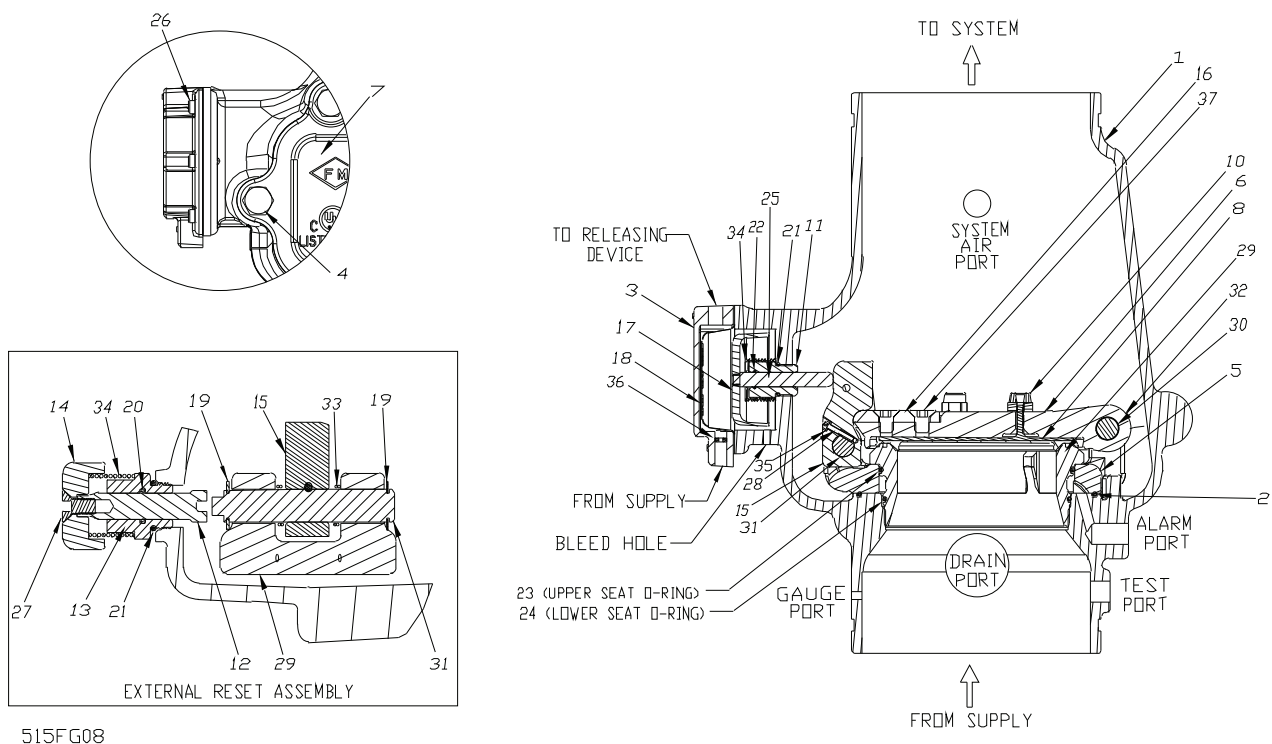
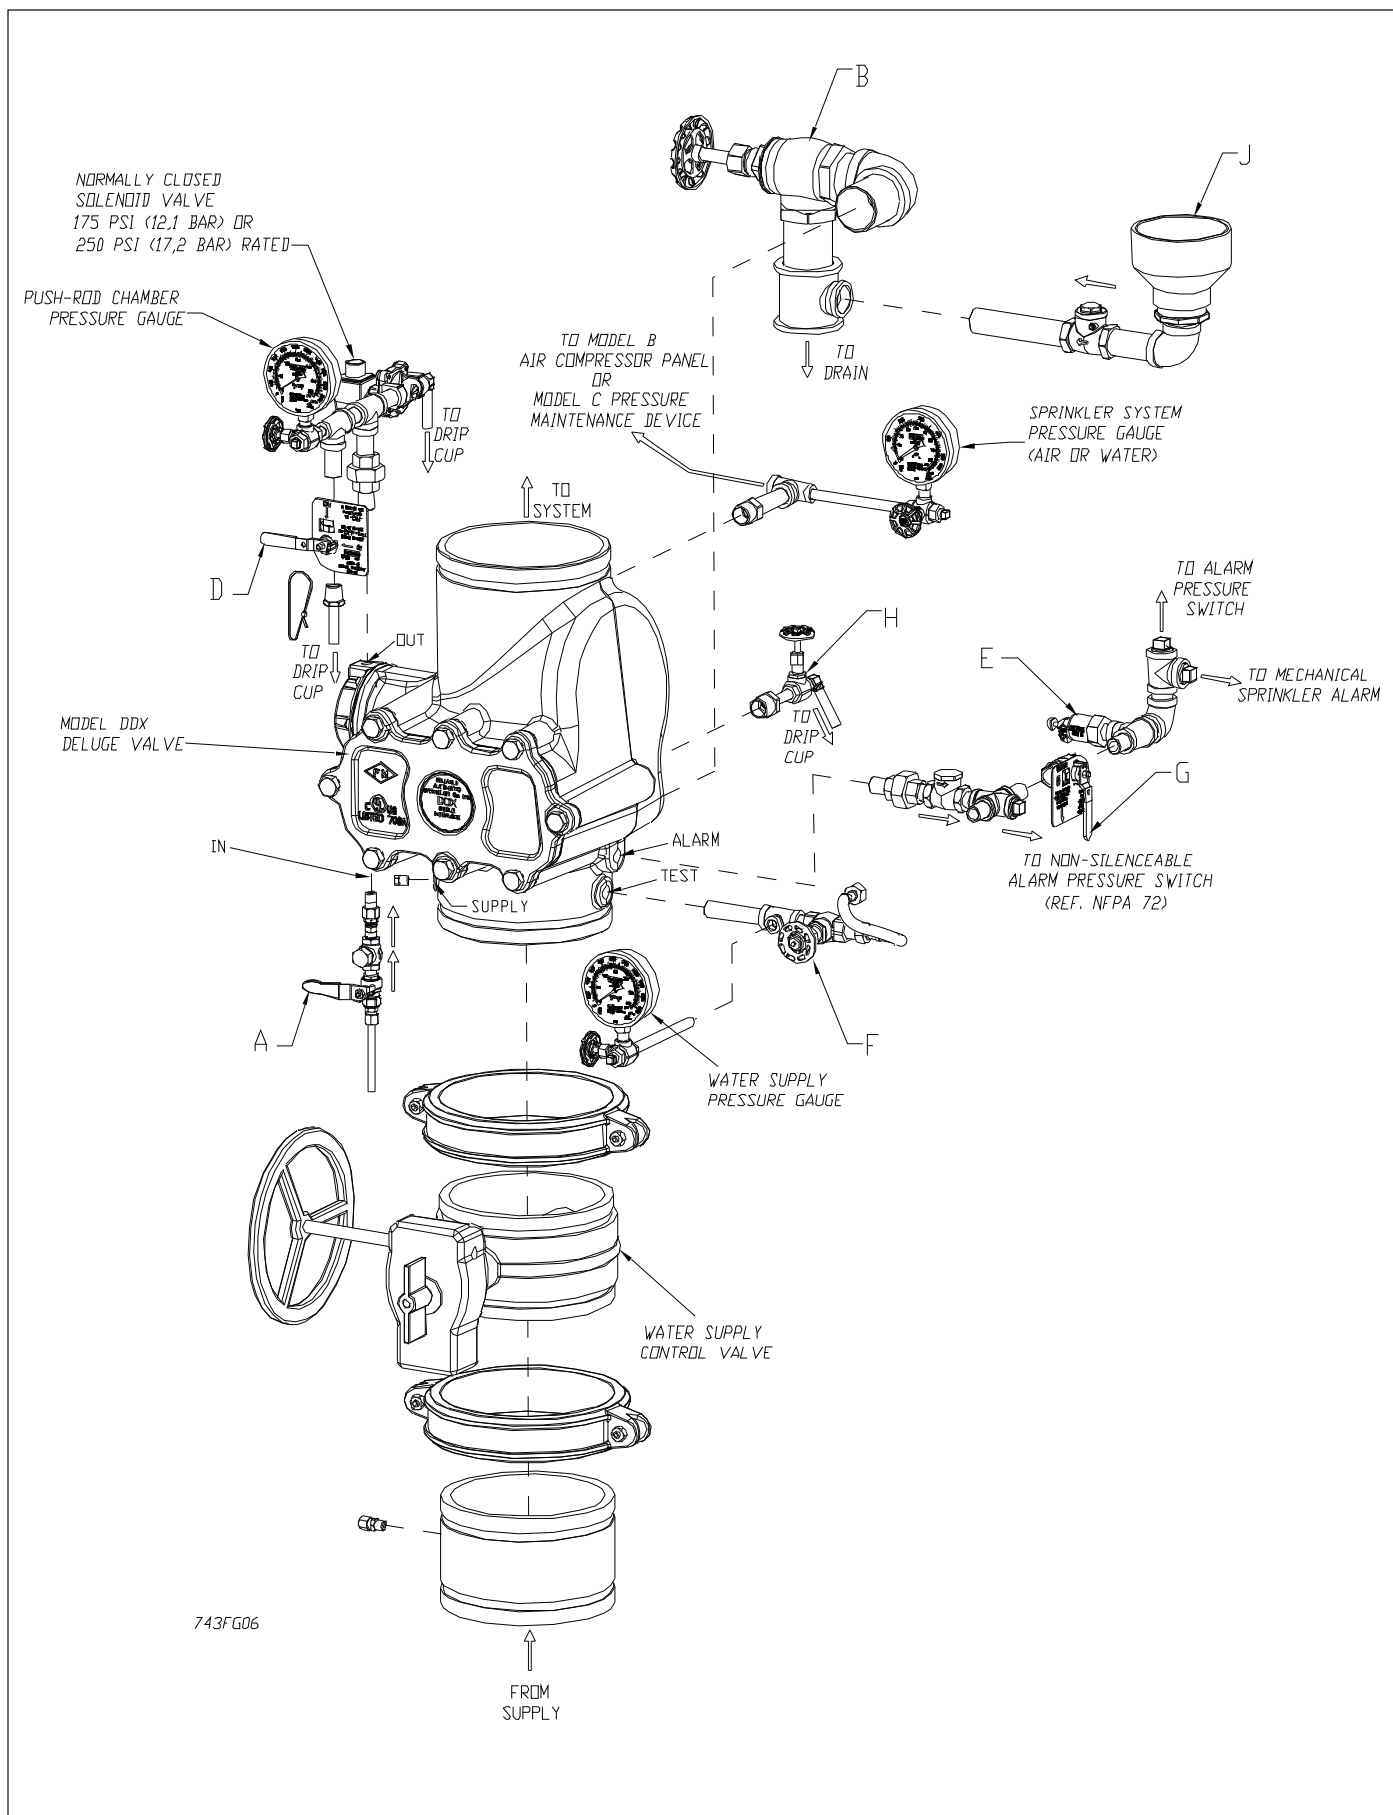

Fig. 5
Fig. 6
1. Close the main valve controlling water supply (Fig. 6) to the Deluge Valve and close off the air supply to the sprinkler system.
2. Close the pushrod chamber supply valve; valve A (Fig. 6).
3. Open the main drain valve, valve B (Fig. 6), and drain system.
4. Open all drain valves and vents at low points throughout the system, closing them when flow of water has stopped. Open valve D (Fig. 6).
5. With valve G (Fig. 6) open, push in the plunger of ball drip valve, valve E (Fig. 6), to force the ball from its seat, and drain any water in the alarm line.
6. With the Model B Manual Emergency Station, valve D (Fig. 6), open, push in and rotate the Deluge Valve's external reset knob (#14, Fig. 5) clockwise until you hear a distinct clicking noise, indicating that the clapper has closed. **Note:** The reset knob can be rotated only after pressure in the pushrod chamber is vented to atmospheric conditions (0 psig).
8. Open valve A (Fig. 6) and allow water to fill the Deluge Valve's pushrod chamber. Close valve D (Fig. 6).
10. Close valve G (Fig. 6) to fill the system with air. Open the valve once air pressure in the sprinkler system is restored.
11. Open valve A (Fig. 6). Open slightly the main valve controlling water supply (Fig. 6) to the Model DDX Deluge Valve, closing drain valve B (Fig. 6) when water flows. Observe if water leaks through the ball drip valve, valve E (Fig. 6), into the drip cup, J (Fig. 6). If no leak occurs, the Deluge Valve's clapper is sealed. Open slowly, and verify that the main valve controlling water supply is fully opened and properly monitored.
12. Verify that valve A (Fig. 6) and valve G (Fig. 6) are open.
13. Secure the handle of the Model B Manual Emergency Station, valve D (Fig. 6), in the OFF position with a nylon tie (#52, Fig. 2).
2. **Alarm line** — be sure that valve G (Fig. 6) is opened and remains in this position.
3. **Other trimming valves** — check that valve A (Fig. 6) is open as well as all of the pressure gauge's 1/4" 3-way valves. Valves D, F, and H (Fig. 6) should be closed.
4. **Ball drip valve E (Fig. 6)** — make sure valve G (Fig. 6) is open. Push in on the plunger to be sure the ball check is off its seat. If no water appears, the Deluge Valve's water seat is tight. Inspect the bleed hole (see Fig. 5) on the underside of the push rod chamber for leakage.
6. **Releasing device** — check outlet of the releasing device (i.e., solenoid valve or the Model B Manual Emergency Station, valve D (Fig. 6)) for leakage. Also verify that tubing drain lines from releasing devices are not pinched or crushed which could prevent proper releasing of the Deluge Valve.
7. **Testing alarms** — make sure valve G (Fig. 6) is open. Open valve F (Fig. 6) permitting water from the supply to flow to the electric sprinkler alarm switch and to the mechanical sprinkler alarm (water motor). After testing, close this valve securely. Push in on the plunger of ball drip valve E (Fig. 6) until all of the water has drained from the alarm line.
8. **Operational test** — Open the Model B Manual Emergency Station, valve D (Fig. 6), or operate by electrical actuation (refer to Bulletin 700, "Special Hazards & Special Systems" for details). **Note:** An operational test will cause the Deluge Valve to open and flow water into the sprinkler system.
9. Secure Model B Manual Emergency Station, valve D (Fig. 6), in the OFF position with a nylon tie (#52, Fig. 2) after the Deluge Valve is reset.
Model DDX 8" (200mm) Deluge Valves Parts List (Refer to Fig. 5)
Refer to Fig. 6
2. Leakage out of the ball drip valve E (Fig. 6).
This condition can be caused by leakage past the system side of the Model DDX Deluge Valve's seal faceplate subassembly (#8, Fig. 5). Be sure that this surface is free of any type of debris. To eliminate leakage due to a water column, refer to the section in this bulletin marked “Draining Excess/Condensate Water From System”. If the problem continues proceed to the following section.
b. Leakage, air or water from the ball drip valve, E Fig. 6)
If system air is leaking out the ball drip valve, the problem is either damage to the airside of the Model DDX Deluge Valve's seal assembly (#8, Fig. 5), seat (#29, Fig. 5) mounting ring O-ring (#2, Fig. 5), or the upper seat O-ring (#23, Fig. 5). If supply water is leaking out the ball drip valve, the problem could be caused by damage to the Model DDX Deluge Valve's seal assembly (#8, Fig. 5), seat (#29, Fig. 5), or lower seat O-ring (#24, Fig. 5). The following section provides instructions to correct both conditions:
- A. Shut down the valve controlling the water supply to the Deluge Valve and open the 2" main drain valve B (Fig. 6). Open the water column drain valve H (Fig. 6). Close the pushrod chamber supply valve A (Fig. 6) and open the Model B Manual Emergency Station D (Fig. 6).
- B. Remove the Deluge Valve's front (handhold) cover (#7, Fig. 5) and inspect the seat (#29, Fig. 5), clapper (#6, Fig. 5), and seal assembly (#8, Fig. 5) for damage.
If inspection indicates damage to the seal assembly (#8, Fig. 5), replace as follows:
Remove the bumpstop nuts (#10, Fig. 5) and remove the seal assembly (#8, Fig. 5). Install a new seal assembly (#8, Fig. 5) and thread the bumpstop nuts (#10, Fig. 5) onto the threaded stud of the seal assembly (#8, Fig. 5) and tighten finger tight plus ¼ to ½ turn. If inspection indicates damage to the clapper (#6, Fig. 8) only, then the clapper sub-assembly can be removed as follows:
At the rear of the valve, disconnect the water column drain trim section starting with the elbow connector (#13, Fig. 2). Then remove the ¼" globe valve (#22, Fig. 2), followed by the ¾" x ¼" reducing bushing (#8, Fig. 2). Remove the retaining ring (water column drain line side) from the clapper hinge pin (#30, Fig. 5) and push this pin through the handhold cover. Remove the clapper subassembly. Replace the seal assembly (#8 Fig. 5) as described previously. Inspect the clapper (#6, Fig. 5) visually before reinstalling. Reinstall in the reverse order making sure the clapper spacers are in their proper position. If the seat (#29, Fig. 5) is damaged or it is suspected that the leakage is through the lower O-ring (#24, Fig. 5), the seat-clapper subassembly is easily removed as a unit as follows:
Using Reliable P/N 6881608000 Seat Wrench, remove the seat by unscrewing. This will loosen the seat-clapper-mounting ring subassembly. Reach into the valve and grasp the seat and remove it from the valve. Then remove the clapper-mounting ring subassembly from the valve. Visually examine all components of the seat-clapper-mounting ring sub-assembly replacing any component that appears damaged. New O-rings (#2, #23 & #24, Fig. 5) should always be used for reassembly.